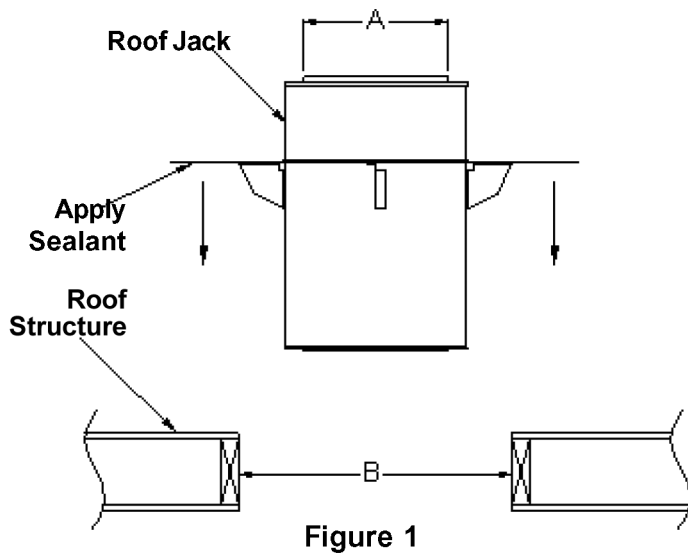
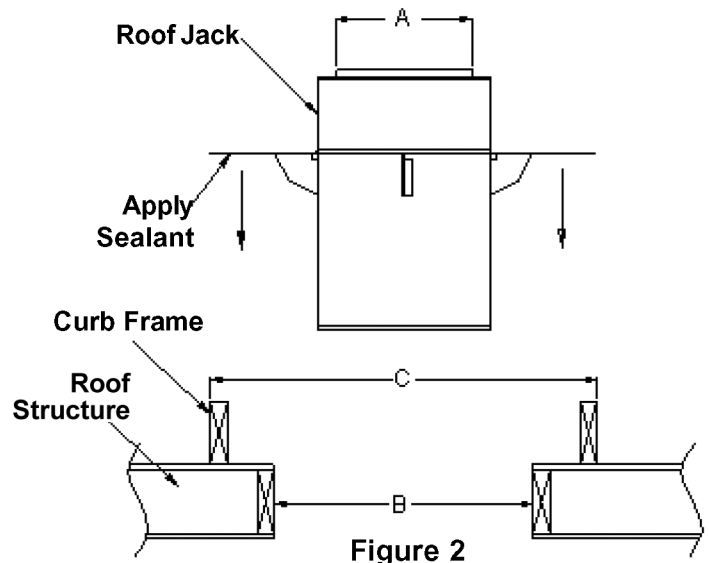

Figure 1
Figure 2
chart Dimension B and Figure 1. Cut a square hole and remove any existing roofing materials to clear the roof jack. If any roof joists must be cut in order to locate the vent, follow local and national building codes for reframing the opening. If using a raised roof curb, refer to the framing chart, Dimension C and Figure 2. Roof curbs can be purchased at most building supply companies and come in many pitches and roof configurations.
- Drill or hand-punch screw or nail holes around the perimeter of the roof jack plate. Apply weather-resistant caulk to the bottom of the roof jack plate, gusset side down (see Figure 1). Center the roof jack over the hole and secure to the roof deck or curb, using screws or roofing nails with neoprene washers.